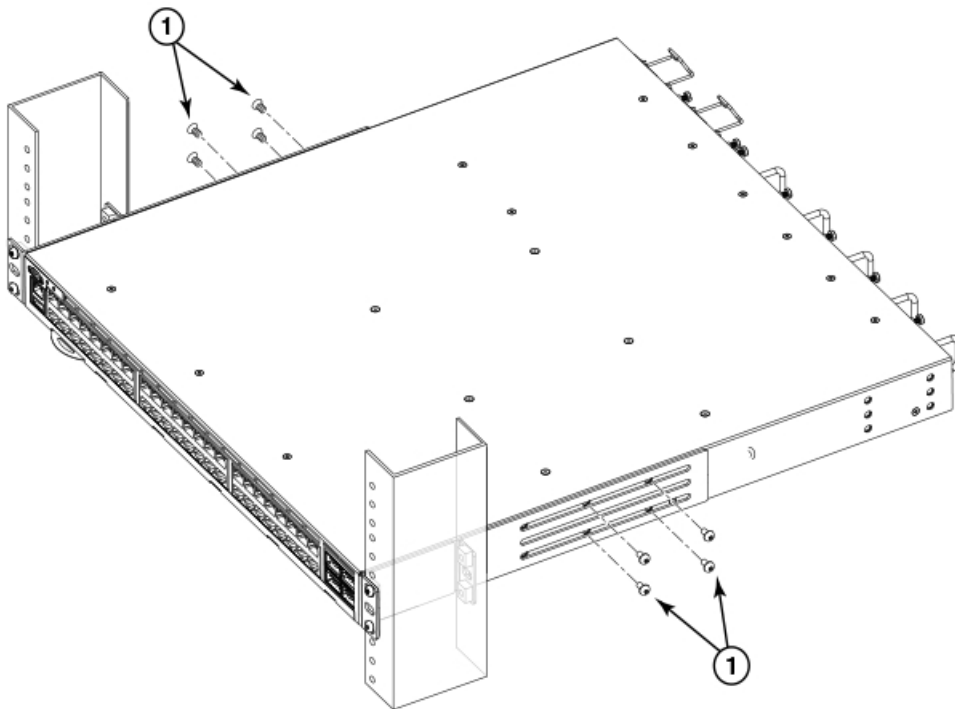

Figure 19. Attaching the rear brackets to the device
1. Align the right rear bracket to the right rear of the device and use four 8-32 x 5/16-in. panhead screws to attach the bracket to the device, as shown in Figure 19 on page 32. Be sure to insert the screws through the upper and lower slots in the bracket.